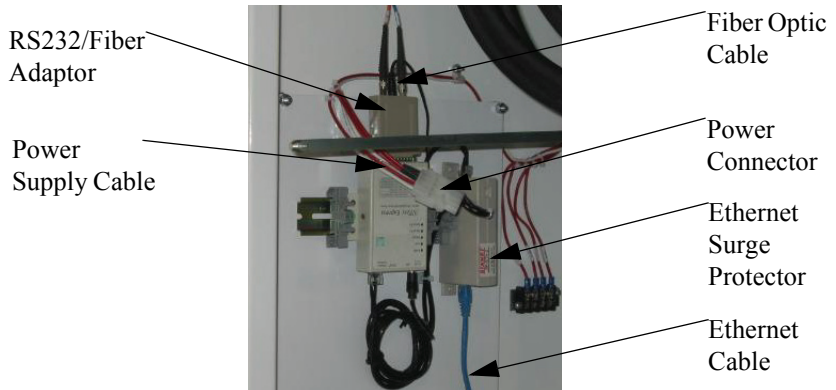

Figure 2 Ethernet Kit Cable Connections
4. Connect the blue cable to the RX connector on the RS232/Fiber adapter. See Figure 2.